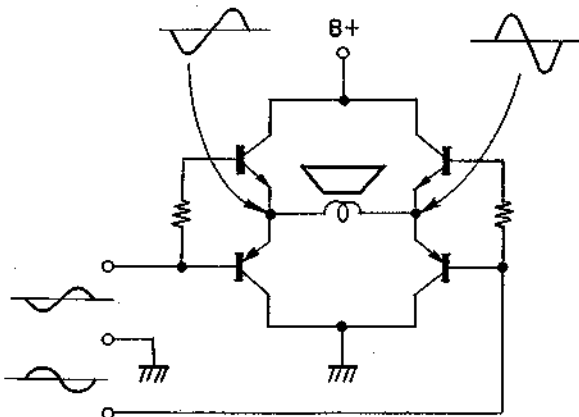

Fig. 1-4
5. POWER AMPLIFIER (Fig. 1-4)
This small-sized power amplifier produces a large output due to its BTL circuit (Balanced Transformerless). The BTL circuit consists of two SEPP (Single Ended Push-Pull) amplifiers combined together as shown in Fig. 1-4. Out-of-phase signals are applied to the inputs, while a load (speaker) is connected across the output terminals. By employing a speaker of the same impedance as the BTL output impedance and the proper B+ voltage, the output obtained by the BTL is about 4 times as great as obtained by an SEPP circuit. An OCL circuit (Output Capacitorless) can also be formed with a single power supply.